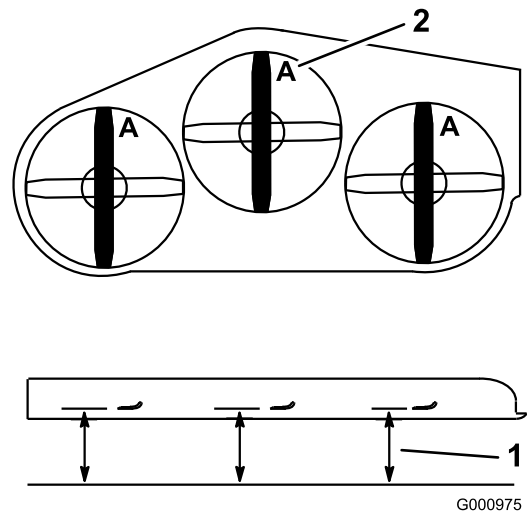

**Figure 77**
1. Inspect the cutting edges (Figure 77).
4. If you notice any cracks, wear, or a slot forming in this area, immediately install a new blade (Figure 77).